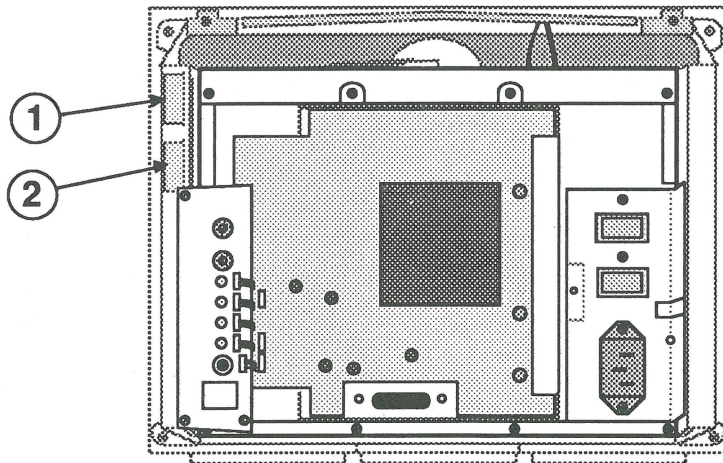

FIGURE 5
2. Set the BRIGHTNESS control (Figure 5, #1) at its center click ("detent") position. To find the detent position, turn the knob fully clockwise, then counterclockwise. The place in the middle, where the knob hesitates, is the detent position.
3. Set the CONTRAST control (Figure 5, #2) at maximum (full clockwise).